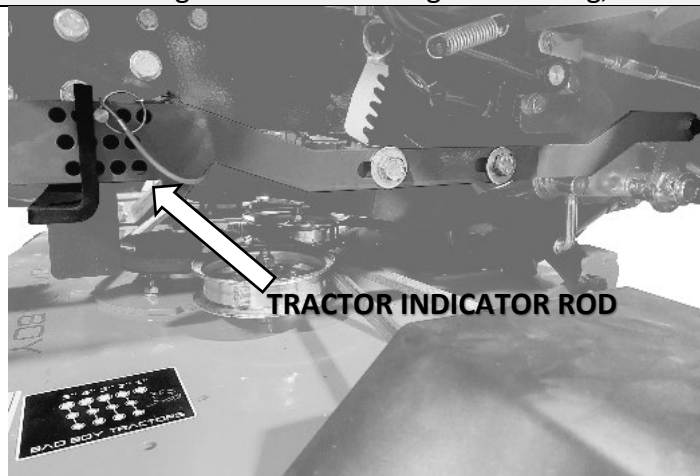

Figure 7B
6. Insert the front portion of the Tractor Indicator Rod into the slot of the Tractor Deck Stop as shown (Figure 7B).